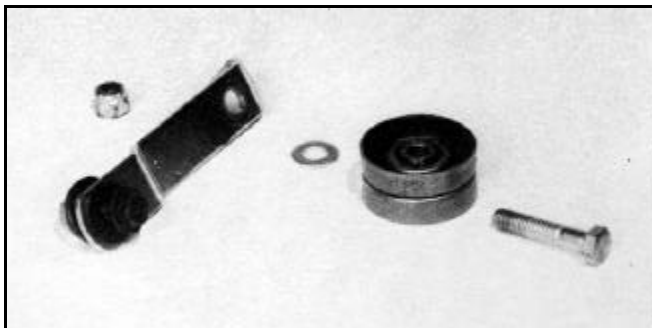

Figure 68
- By removing the capscrew and locknut that retains the idler pulley to the idler arm, the idler pulley can be removed and the bearings can be inspected (Figure 68). Should the bearing have unusual side to side play or be "wallowed" (oval shaped), replace the idler pulley and the capscrew.